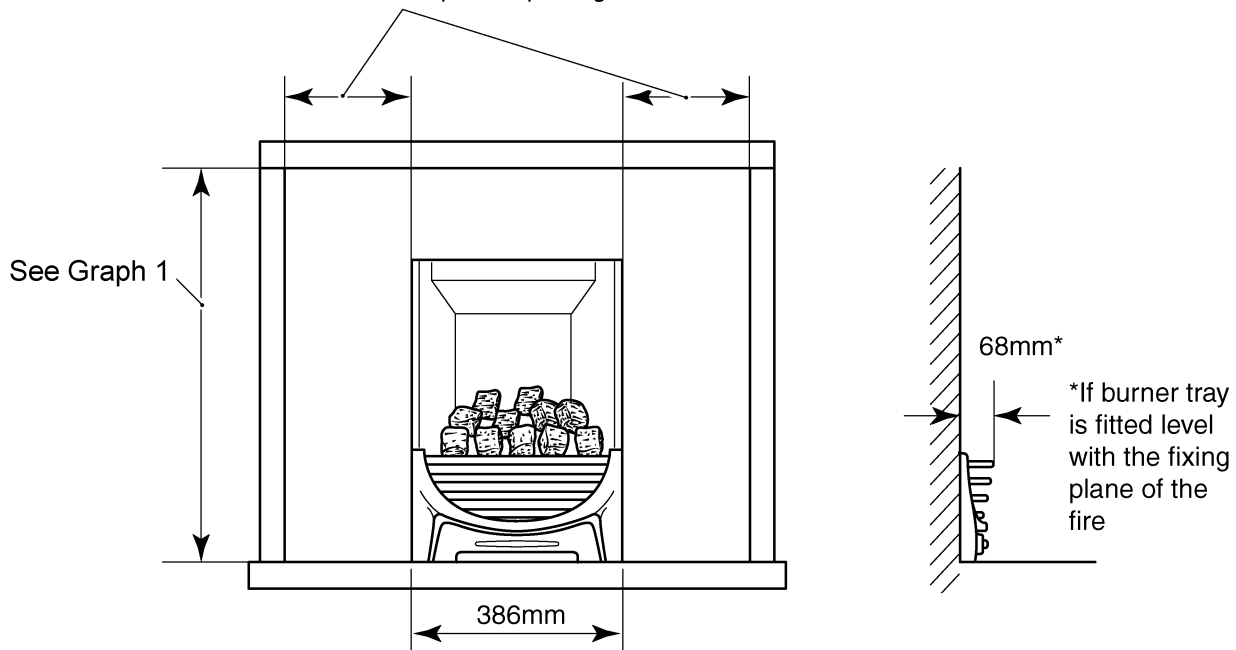

Figure 3. Appliance dimensions
4.14 Combustible side projections up to 75mm forward of the fixing plane of the fire are to be a minimum of 125mm from the fireplace opening (See figure 3)
4.14.1 Combustible side projections greater than 75mm forward of the fixing plane of the fire are to be a minimum of 178mm from the fireplace opening (See figure 3).
4.14.2 Non-combustible side projections to be 75mm from the fireplace opening (See figure 3)